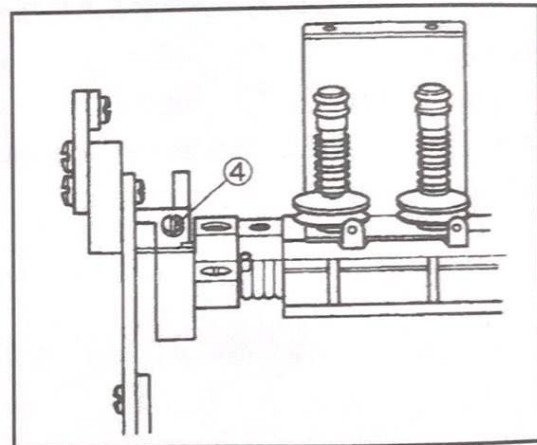

Fig.10
(1) 放開提昇擺臂（大）的螺絲④。(Fig.10)
(1) Loosen the screw ④ of the presser bar lifter lever (large).(Fig. 10)